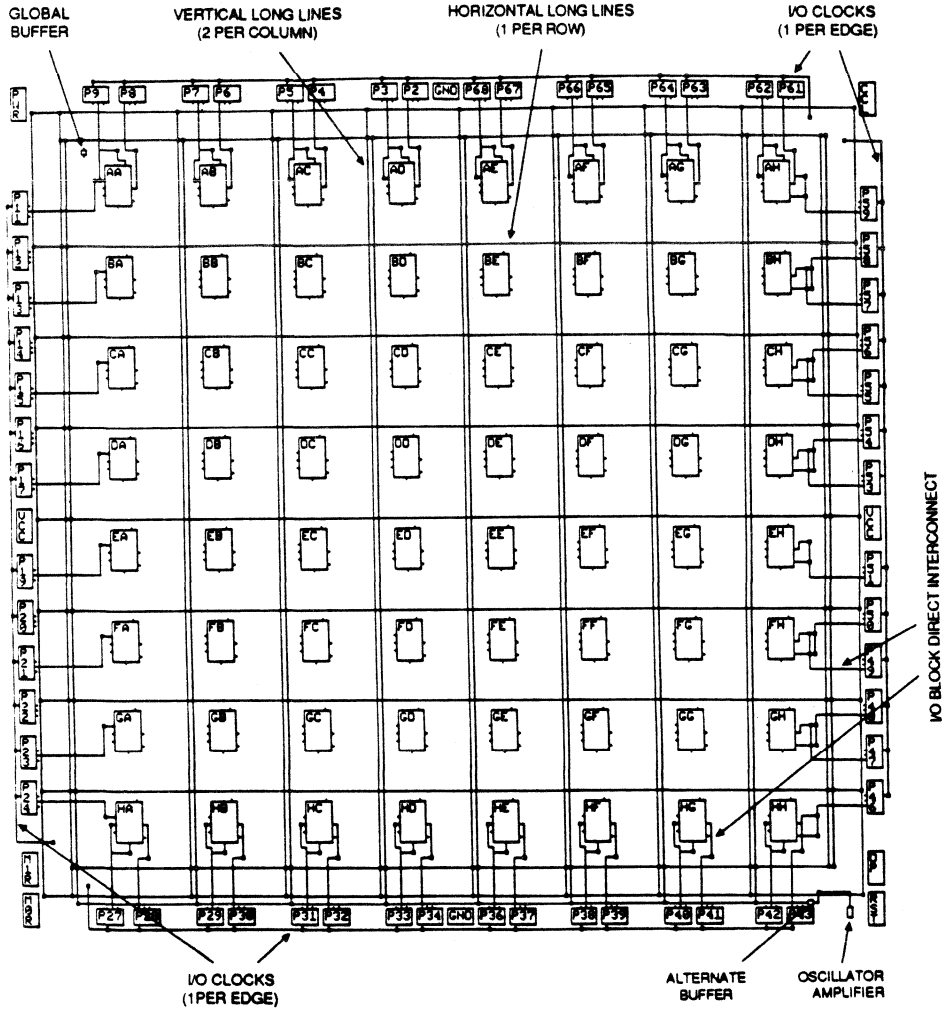

Figure 8b. M2064 Long Lines, I/O Clocks, I/O Direct Interconnect
C or K inputs of the logic blocks. Alternatively, these long lines can be driven by a logic or I/O block on a column-by-column basis. This capability provides a common, low-skew clock or control line within each column of logic blocks. Interconnections of these long lines are shown in Figure 8b.
output can use direct interconnect to drive the B input of the block immediately to its right. Where logic blocks are adjacent to I/O blocks, direct connect is provided to the I/O block input (I) on the left edge of the die, the output (O) on the right edge, or both on I/O blocks at the top and bottom of the die. Direct interconnections of I/O blocks with CLBs are shown in Figure 8b.